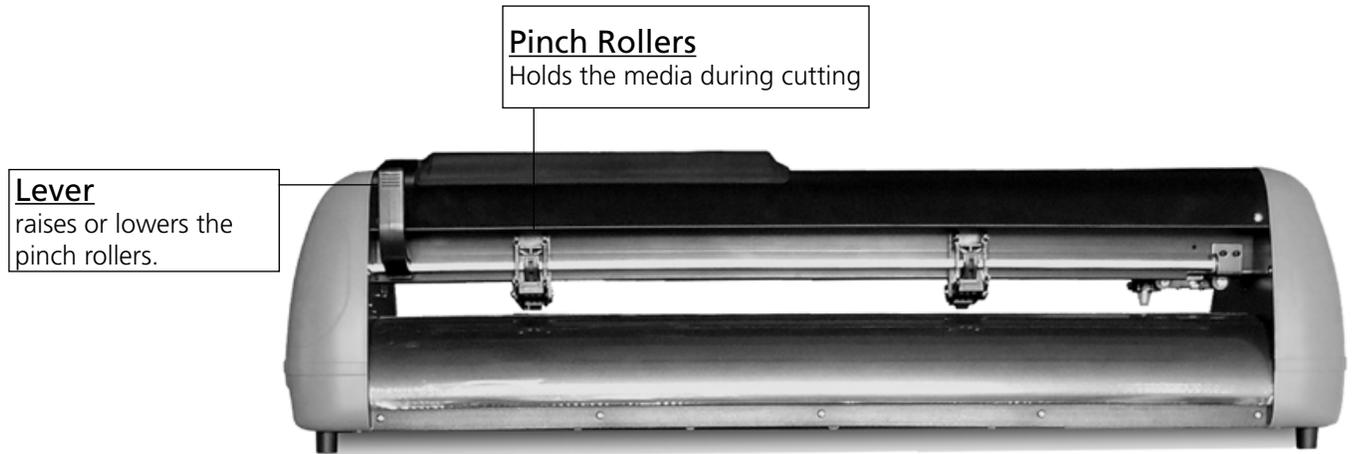

Fig 1-2
1.4.2 The Rear View (Figure 1-2)